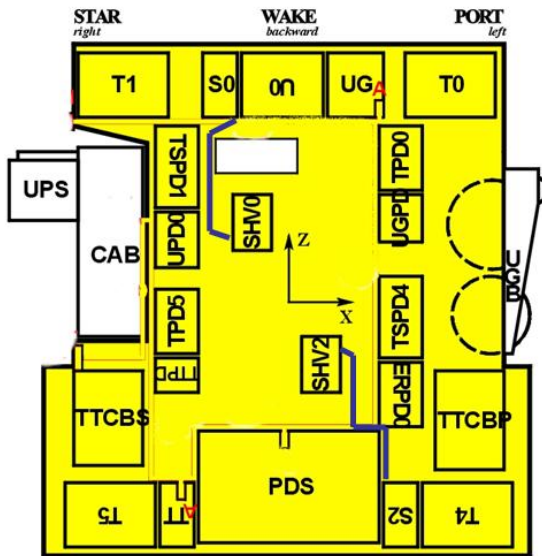

Figure 4: Routing of ACC HV cables on WAKE radiator. The blue line corresponds to the 4 ACC HV cables, each.
6.4 Route 4 ACC HV cables according figure 4 to SHV0 brick. Form a bundle and stabilize it with surrounding flight cable ties every ten centimeters. Connect ACC HV cables as in following table and fix them by hand (no tool needed):